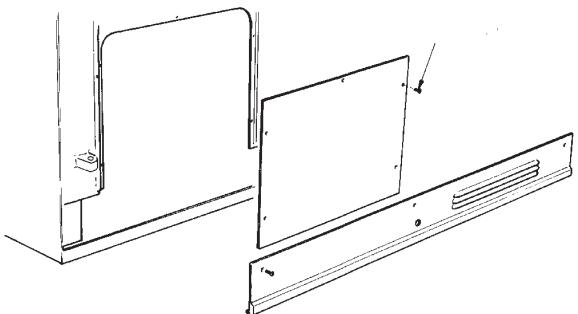

FIG. 5
- SEE FIG. 5
2. Remove (5) inner panel securing screws and remove panel.
- 3 Remove the (3) plinth securing screws and remove plinth.